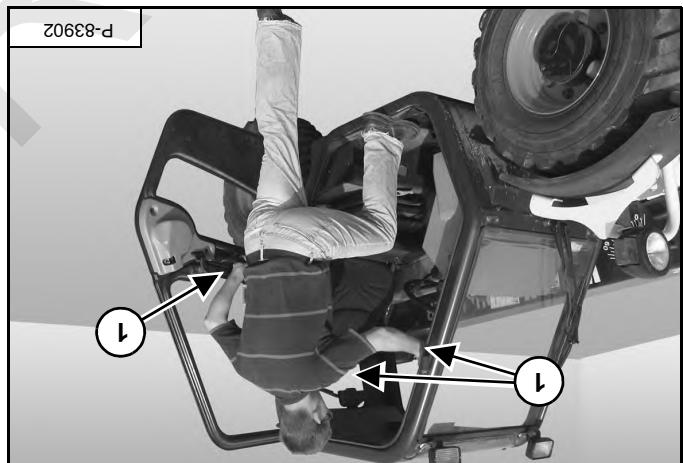

Figure 147
NOTE: Maintain three-point contact at all times while entering or exiting the telescopic handle. Do not jump. Use the hand grabs (item 1) [Figure 147] to enter the operator cab.